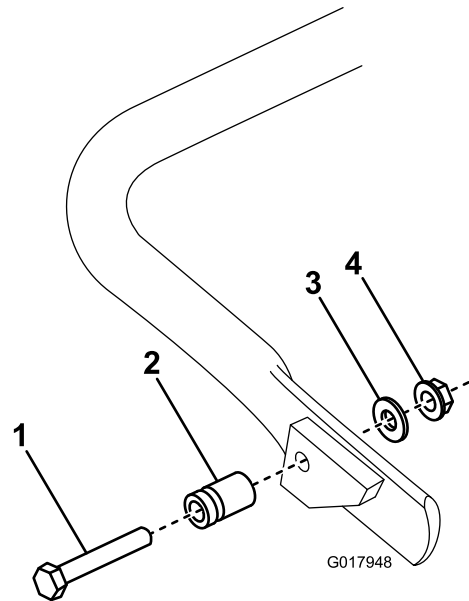

Figure 5
1. Connect the spring stud to the right hand side of the kickstand (Figure 5) using the bolt, washer, and flange-head nut provided.